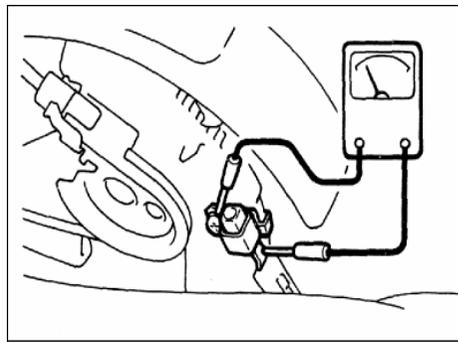

Fig. 16-50
(2). Check for continuity between the parking brake switch terminal and the switch mounting bolt. (see Fig.16-50、Table16-10)。